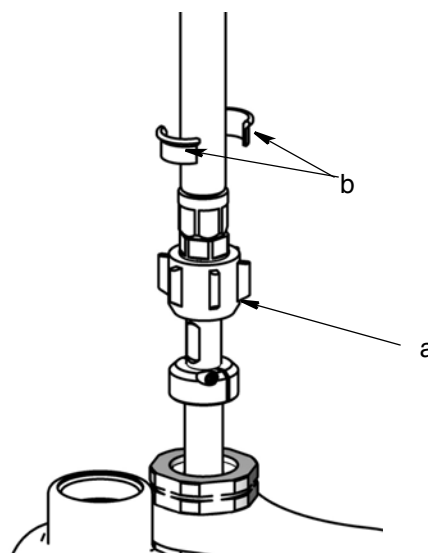

FIG. 1
4. Unscrews the coupling nut (a) from the motor shaft. Lift the motor shaft and remove the coupling nut (a) and collars (b) (FIG. 1).